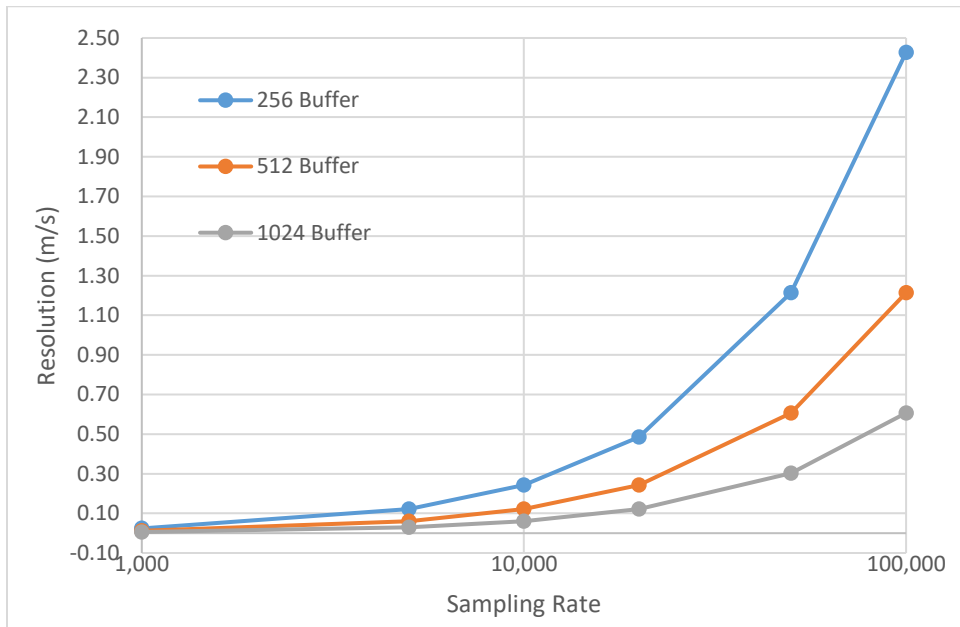

Figure 5. Doppler (-A) Buffer Size versus Resolution
**Sampling Rate/Buffer Size (-A, -C Doppler)** – set these values to control the sample rate of the module. This setting influences the output data and the rate at which the data is reported. The buffer size influences the report rate and resolution. A buffer size of 512 will have a report rate between 5-30Hz. The resolution becomes worse by a factor of two with a 512-buffer size versus 1024 (Figure 5) and worse again at 256 buffer size.